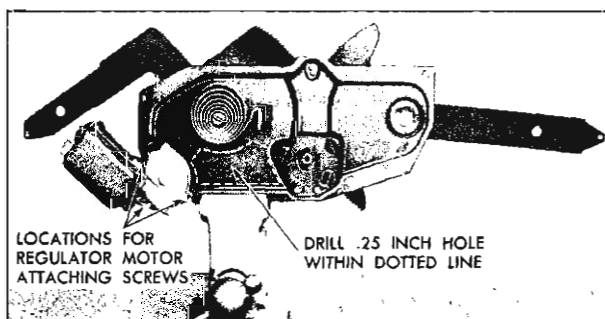

Fig. 86—Window Regulator Motor Removal
2. Place regulator assembly in a vise as shown in Figure 86.
3. Drill a 1/4 inch hole through regulator backplate and main sector within area indicated by dotted lines (fig. 86).
5. Remove three (3) motor attaching bolts, at locations shown in Figure 86, and remove motor assembly from regulator.